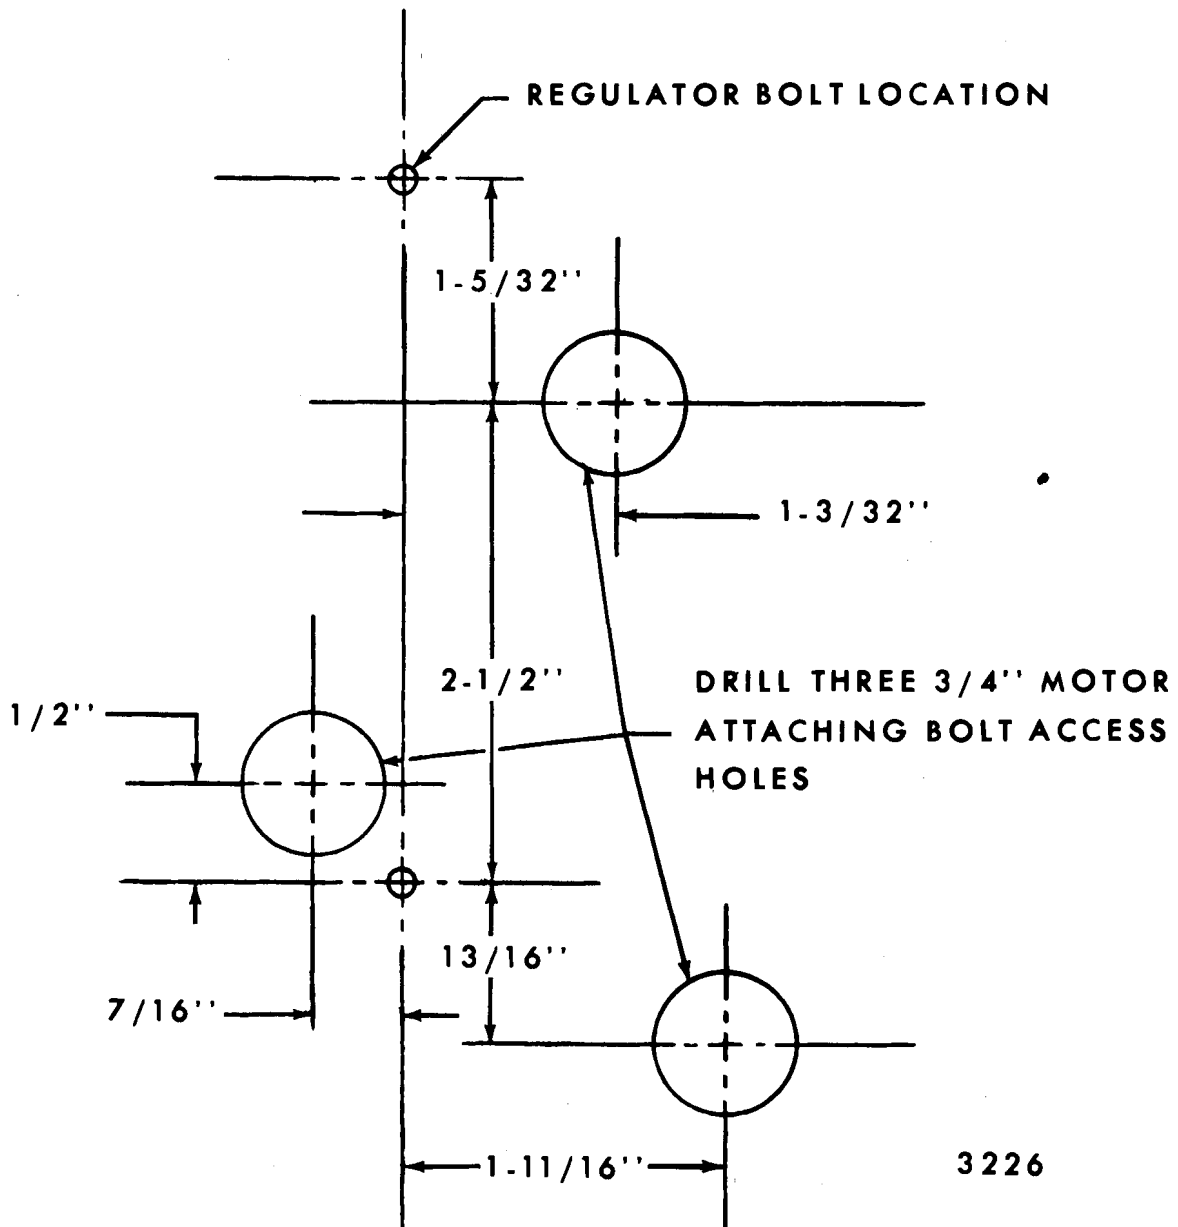

Fig. 6-26-Window Regulator Upper and Lower Left Attaching Bolt Reference Points for Locating Window Motor to Regulator Attaching Bolts - "A-27 and 77" Styles
2. Refer to Figures 6-26, 6-27, 6-28, 6-29 and 6-30 and select the appropriate template for locating window motor to regulator attaching bolts by using window regulator to door inner panel attaching bolts as reference points.